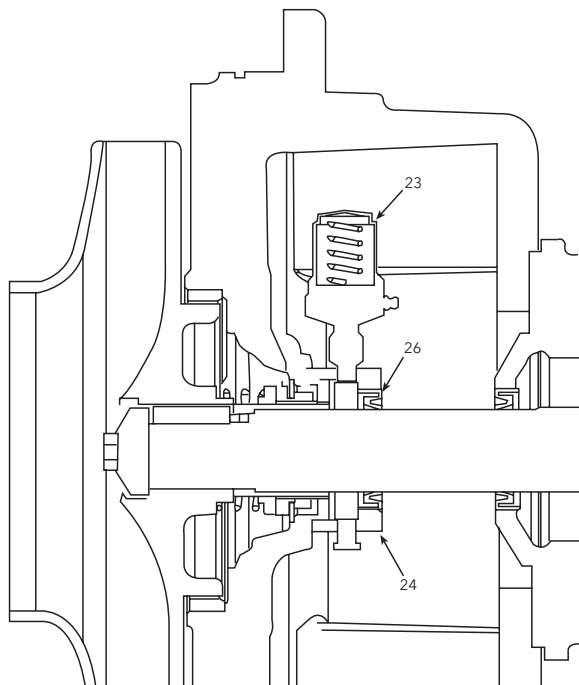

Figure 15
1. The grease gland (24) will have the letters "G" and "O" stamped on the outside diameter and have two ⅛" NPT connections for mounting a grease feeder or oiler.
2. For grease feed applications, the grease gland is assembled with the "G" stamp in the 12 o' clock position. The grease feeder (23) will mount in the grease gland at a 30 degree angle from the horizontal. This is done to gain access to the grease fitting located on the grease feeder. The lip seal (26) mounted in the grease gland will be assembled as shown in Figure 15.